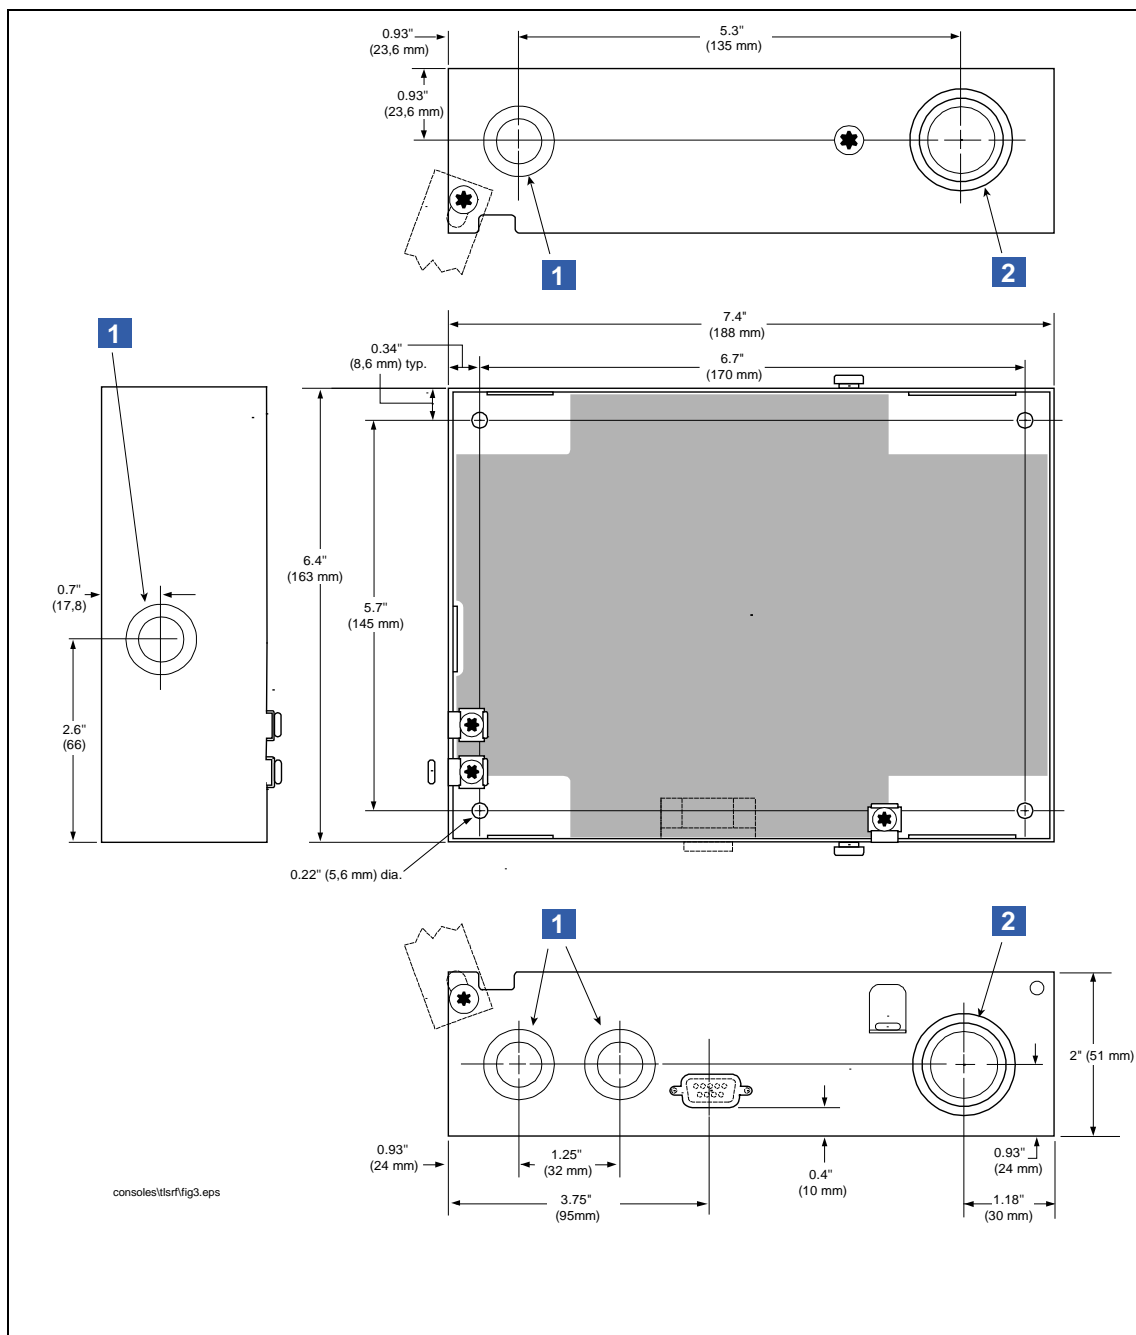

Figure 3. TLS RF dimensions and designated conduit knockouts
Dimensions of the TLS RF are shown in Figure 3.
LEGEND FOR NUMBERED BOXES IN FIGURE 3
Install the unit's fastening devices to the mounting surface using the hole pattern (6.7" x 5.7") shown in Figure 3. Mounting screws up to 3/16" diameter may be used.
Install metal conduit (1/2-inch I.P.S.) between the upper power side knockout on the unit and the power panel. Figure 3 shows the three designated knockouts (one each on top, left side, and bottom) through which power wiring can safely enter the unit.
Attach conduit from the power panel to the unit's power wiring knockouts only (1 on top and 1 on bottom, ref. Figure 3)
4.	POWER WIRING NOTES: <ul style="list-style-type: none"> - Barrier ground must be #12 AWG or larger diameter. - Check to be sure that the electrical resistance - between the unit ground lug and a known good earth ground is less than 1 ohm. - Connect the power supply wires in the power panel to a separate dedicated circuit. - Electrical rating power input - 120 Vac or 240 Vac, 50/60 Hz, 2 A max. - See Figure 3 for actual locations of power conduit knockouts into the unit. Power wiring must enter only in one of these knockouts.
- See Figure 3 for actual locations of power conduit knockouts into the unit. Power wiring must enter only in one of these knockouts.